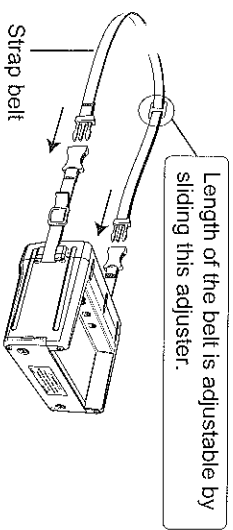

Fig. 14-3
(3) Attach the both ends of the Strap Belt to the Side Belt. (see Fig. 14-3)